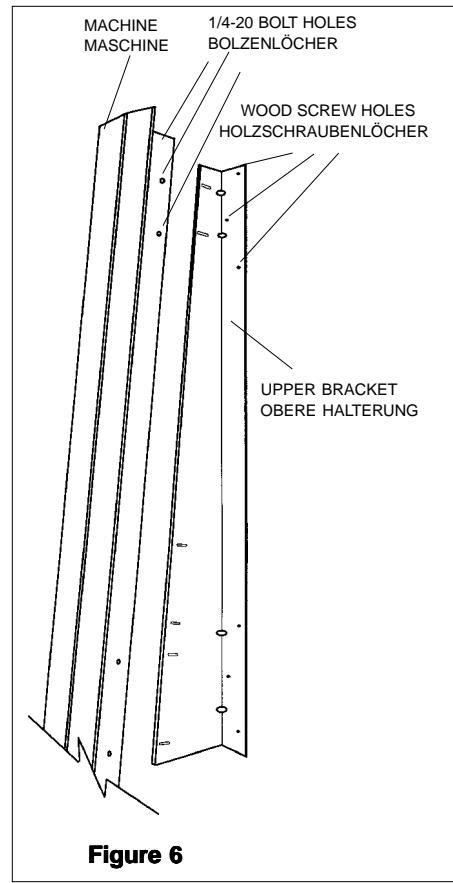

Figure 6
1. Hold the **UPPER BRACKET**, **Figure 6**, against the wall with the top about 93" (2360mm) above the floor. Use a level to be sure it is vertical. Mark the wall through the 6 mounting holes. Drill pilot holes in the wall and install the **UPPER BRACKET** with six hex head wood screws from the parts bag, shown at **A** on the facing page.
3. Lift the machine and attach it to the **UPPER BRACKET** with four 1/4-20 bolts, washers, lock washers, and nuts shown at **H**. See **Figure 6**.